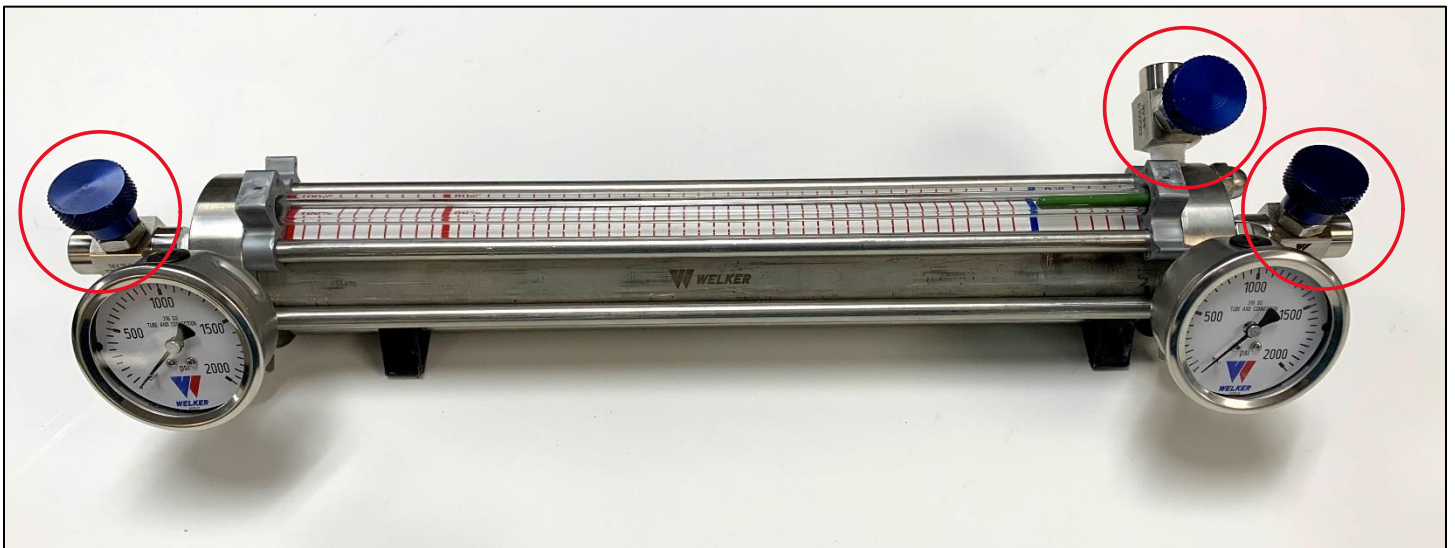

Figure 1: Welker® Constant Pressure Cylinder Showing Three (3) Installed NV-1MF Valves (Circled)
1. Placement of your valve or valves is likely on a larger product or system (see example in *Figure 1*). Refer to other relevant *Installation, Operation, and Maintenance (IOM) Manuals* for complete instructions on installing and operating your product or system.